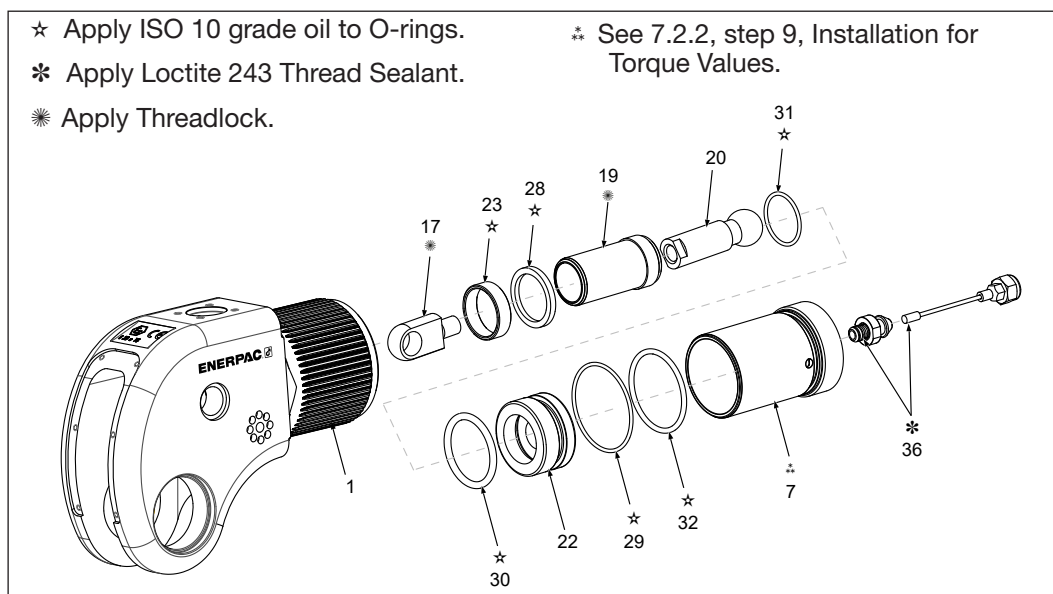
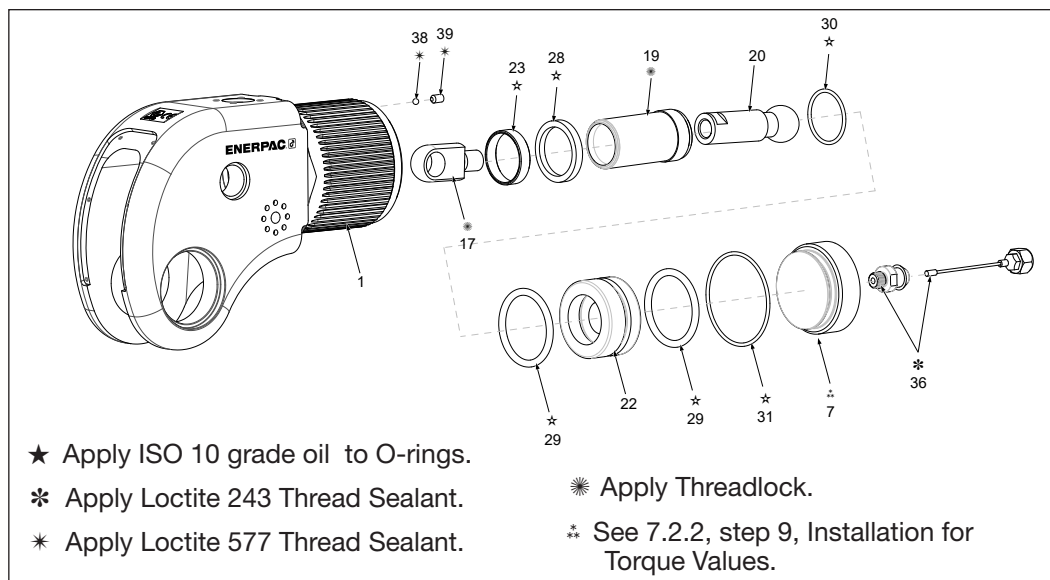

Figure 13: Exploded DSX1500, DSX3000, DSX5000 Pistons
Figure 14: Exploded DSX11000, DSX25000 Pistons
7.2.2 Piston Assembly (Fig. 13/ Fig.14)
1. To separate the reaction arm from the wrench body (1) unscrew and remove the wire assembly first by unscrewing the nut followed by the rest of the assembly (36).
3. Firmly hold the wrench body (1). Using an appropriate pin spanner, unscrew and remove the piston sleeve (7), followed by the freed piston assembly. Remove the O-ring (32) from the piston sleeve.
4. **DSX11000/ DSX25000 only** - remove the grub screw (39) and ball bearing (38) from the wrench body for inspection and cleaning. Reassembly after Loctite 577 has been applied. Loctite must be fully cured before testing.
5. Remove seal from piston head (22) separate rod end (17) from piston rod (20) separate piston head (22) from piston (19) remove internal O-Ring from piston head.
6. Remove the rod seal (28) and piston bush (23) if they are still present in the wrench body.
• Reassembly and Installation (Fig. 13/ Fig.14)